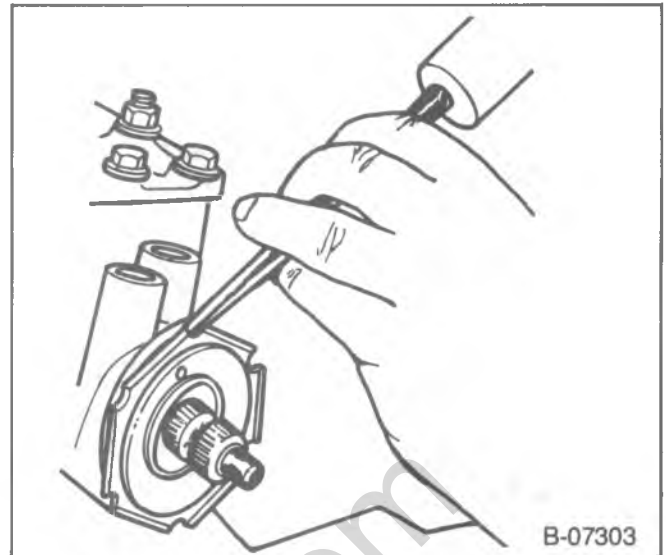

Figure 13—Loosening Adjuster Plug Nut
1. Loosen and remove the adjuster plug nut (6) (figure 13).
2. Turn the adjuster plug (3) in (clockwise), using J-7624, until the plug and thrust bearing are firmly bottomed in the housing.